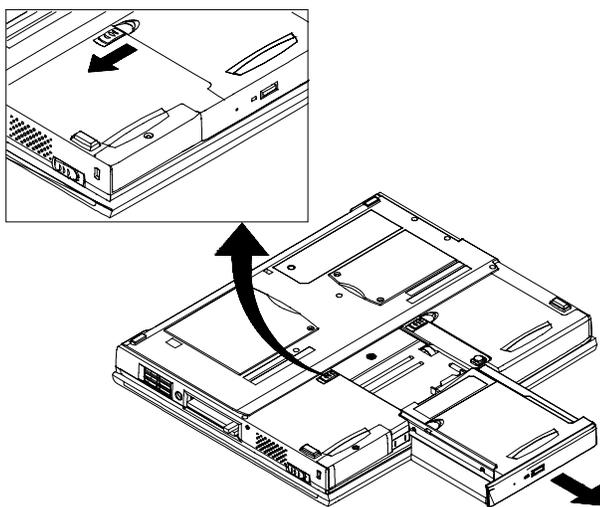
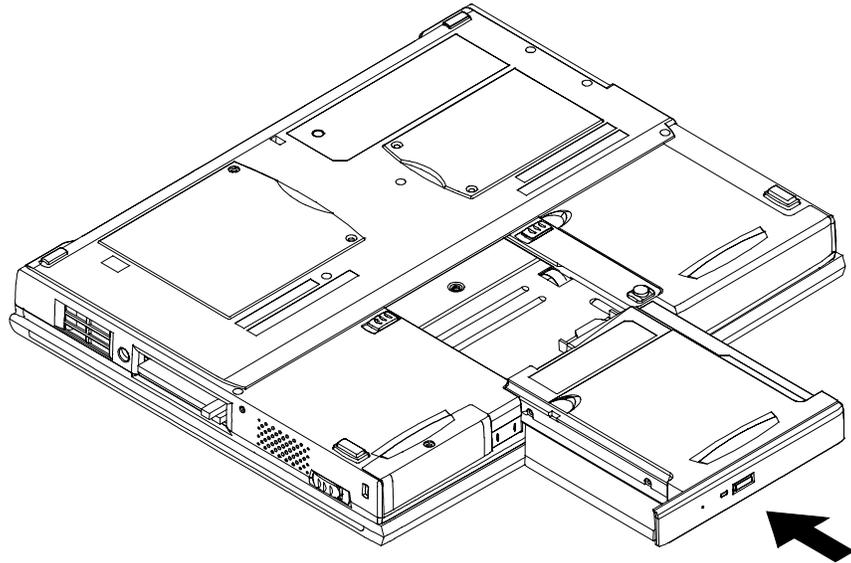

Figure 6-2: Removing the CD-ROM Module
Figure 6-3: Installing the CD-ROM Module
3. Locate the Module Lock/Release latch on the bottom of the Notebook. Please refer to *Figure 6-2*.
4. Slide the Module Lock/Release latch in the direction of the arrow (1) as shown in *Figure 6-2*. This will unlock the module from its original position.
5. Slide the module out of its housing (2).
6. Install the desired module by inserting it back into the bay. Please refer to **Figure 6-3**. When the module has been properly seated, you should hear it click into place. The release latch is spring-loaded and will snap back into place.